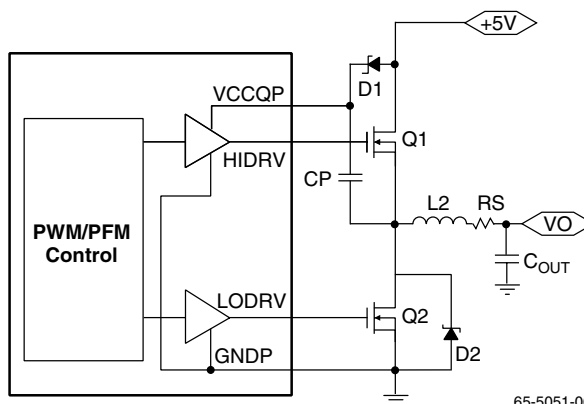

Figure 3. Charge Pump Configuration
Figure 3 shows the use of a charge pump to provide gate bias to the high side MOSFET when +12V is unavailable. Capacitor CP is the charge pump used to boost the voltage of the RC5051 output driver. When the MOSFET Q1 switches off, the source of the MOSFET is at approximately 0V because of the MOSFET Q2. (The Schottky D2 conducts for only a very short time, and is not relevant to this discussion.) CP is charged through the Schottky diode D1 to approximately 4.5V. When the MOSFET Q1 turns on, the voltage at the source of the MOSFET is equal to 5V. The capacitor voltage follows, and hence provides a voltage at VCCQP equal to almost 10V. The Schottky diode D1 is required to provide the charge path when the MOSFET is off, and reverses biases when VCCQP goes to 10V. The charge pump capacitor (CP) needs to be a high Q, high frequency capacitor. A 1 μ F ceramic capacitor is recommended here.